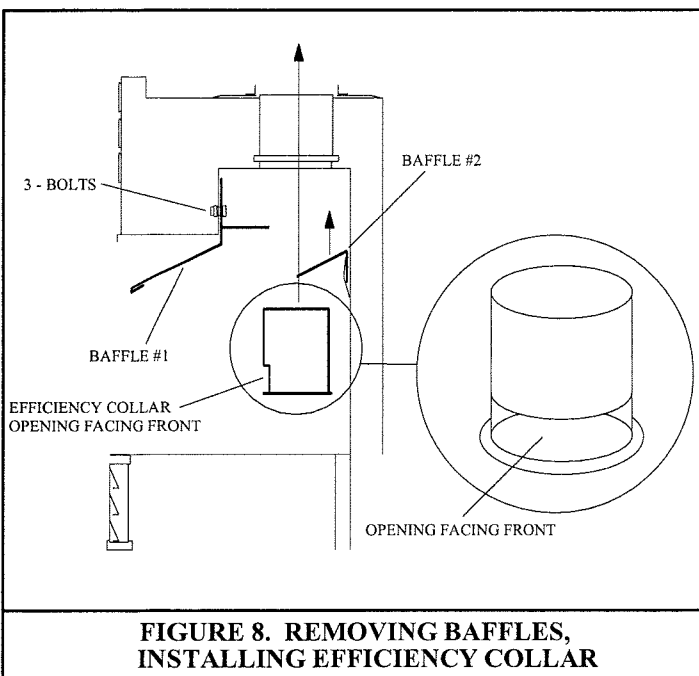

FIGURE 8. REMOVING BAFFLES, INSTALLING EFFICIENCY COLLAR
STEP3. Remove baffle #1 by removing the bolts holding it in place. Remove baffle #2 by lifting it up past the clip holding it in place. (See figure 8.)
STEP4. Insert efficiency collar into flue collar and let it rest in position until the insert is installed. The opening in the efficiency collar must be facing toward the opening of the fireplace. After the insert is installed (described later) you must drop the efficiency collar so that it will rest on the top of the insert. (See figure 8.)